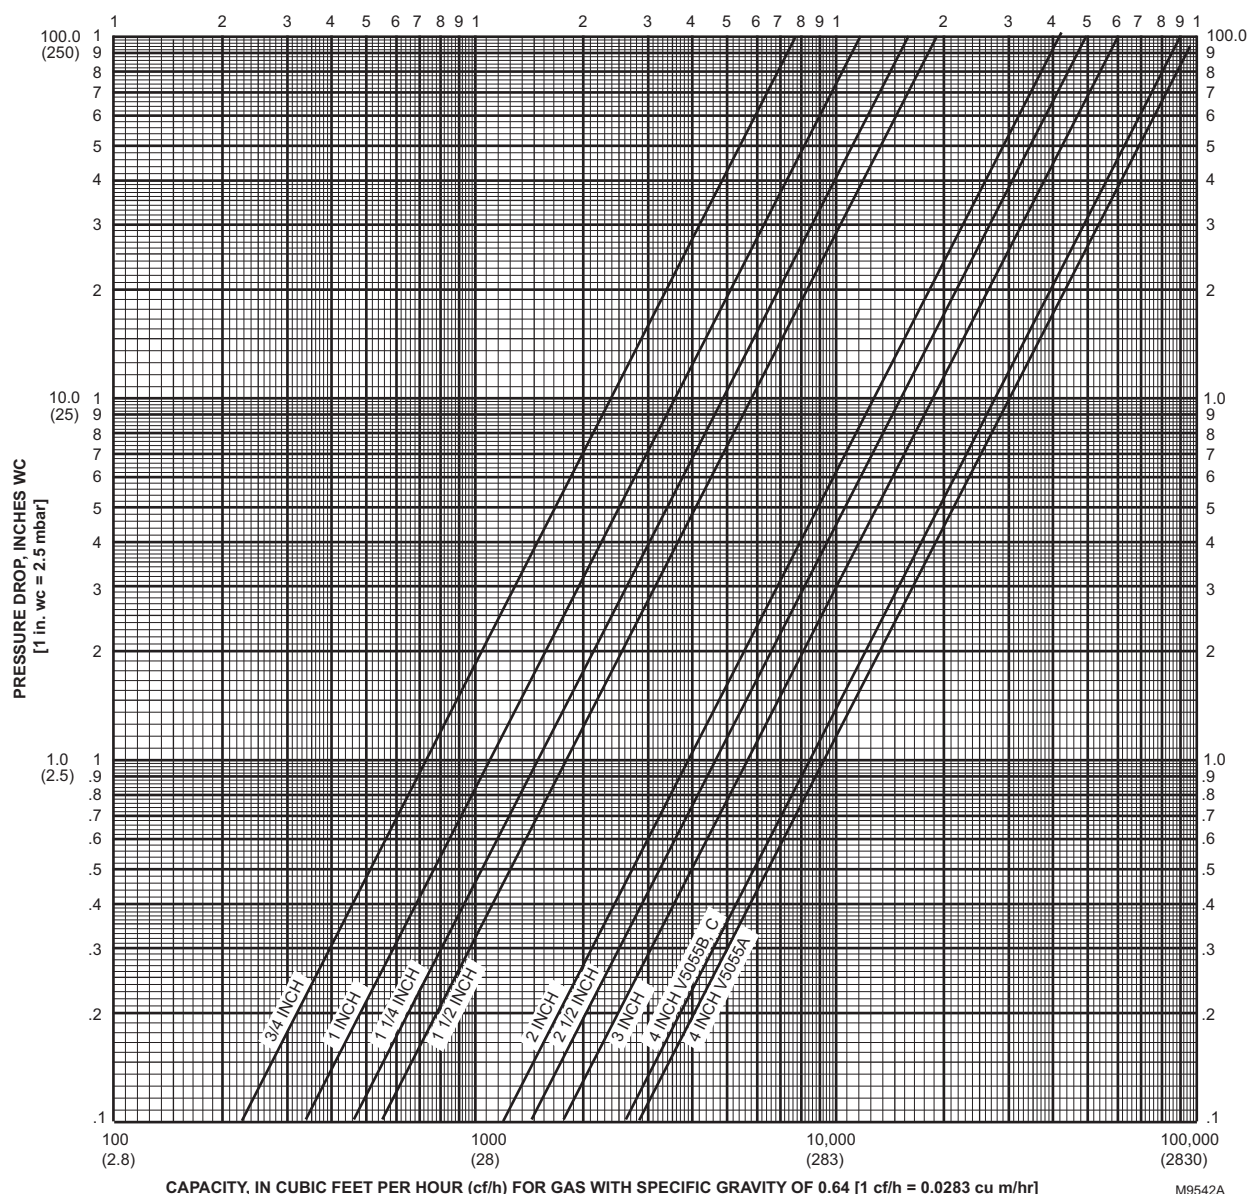

Fig. 1. Flow curves for V5055 Valves.
5. Use the corrected burner capacity in cf/h when determining the gas valve size in Fig. 1.
6. Determine the available pressure drop across the valve and draw a horizontal line at this pressure in Fig. 1.
7. Draw a vertical line in Fig. 1 at the capacity (cf/h) previously determined. Use the corrected capacity for a gas with a specific gravity other than 0.64.
4. Find the valve size from Fig. 1.